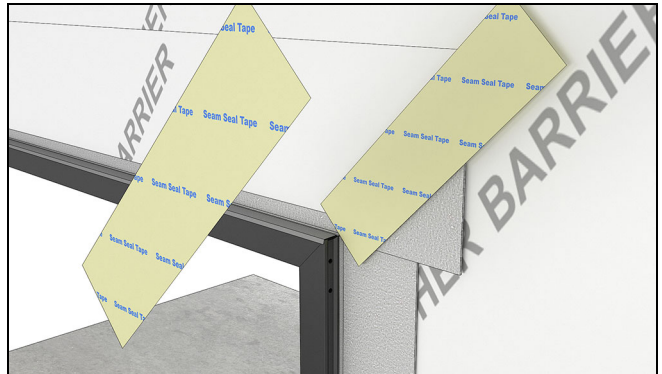

Figure 280
10. Fold the head jamb WRB down over the head jamb flashing. Apply seam seal tape over the diagonal cut in the WRB. Make sure the seam seal laps onto the window. Tape any seams and fasteners directly above the unit with seam seal tape. See Figure 280.